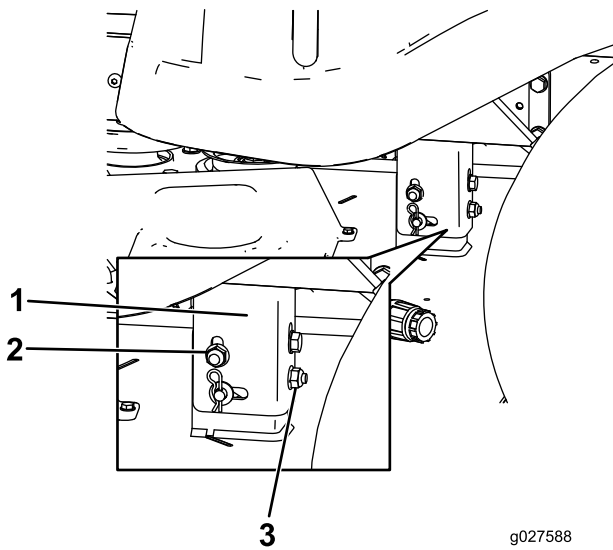

Figure 69
8. Raise or lower the left side of the mower deck by rotating the rear nut (Figure 69).
Note: Rotate the rear nut clockwise to raise the mower deck; rotate the rear nut counter-clockwise to lower the mower deck (Figure 69).